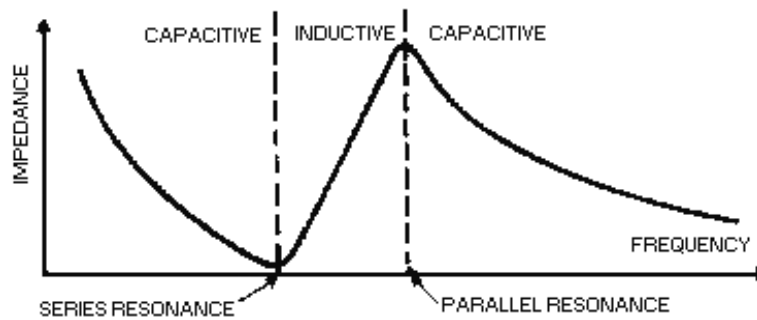

Figure 2-21.—Frequency response of a crystal.
At some frequency, the reactances of equivalent capacitor C1 and inductor L will be equal and the crystal will act as a series-tuned circuit. A series-tuned circuit has a minimum impedance at resonance (figure 2-21). Above resonance the series-tuned circuit acts INDUCTIVELY, and below resonance it acts CAPACITIVELY. In other words, the crystal unit has its lowest impedance at the series-resonance frequency. The impedance increases as the frequency is lowered because the unit acts as a capacitor. The impedance of the crystal unit also increases as the frequency is raised above the series-resonant point because the unit acts as an inductor. Therefore, the crystal unit reacts as a series-tuned circuit.
Since the series-tuned circuit acts as an inductor above the resonant point, the crystal unit becomes equivalent to an inductor and is parallel with the equivalent capacitor C_1 (view (B) of figure 2-20). At some frequency above the series-resonant point, the crystal unit will act as a parallel-tuned circuit. A parallel-tuned circuit has a MAXIMUM impedance at the parallel-resonant frequency and acts inductively below parallel resonance (figure 2-21). Therefore, at some frequency, depending upon the cut of the crystal, the crystal unit will act as a parallel-tuned circuit.